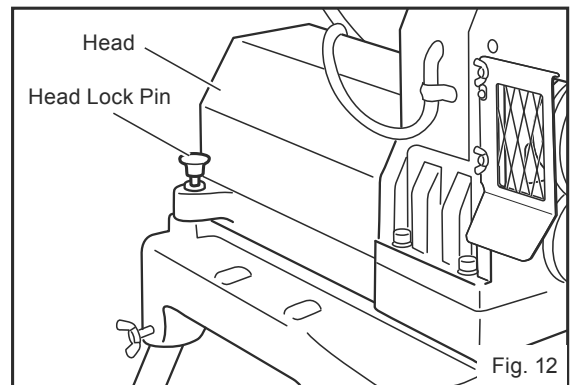

Fig. 12
1. Unlocking the head lock pin (Fig. 12)